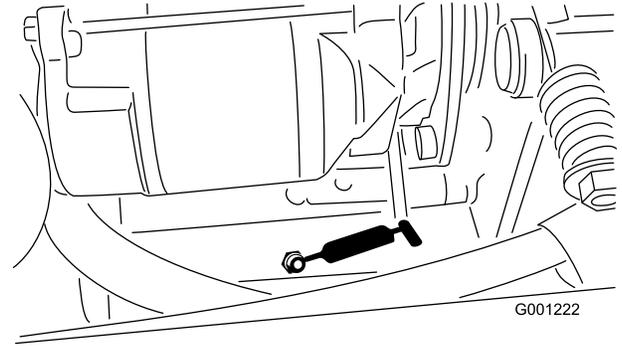

Figure 39
- Rear PTO bearing (Figure 39)
- PTO tension pivot (Figure 39)